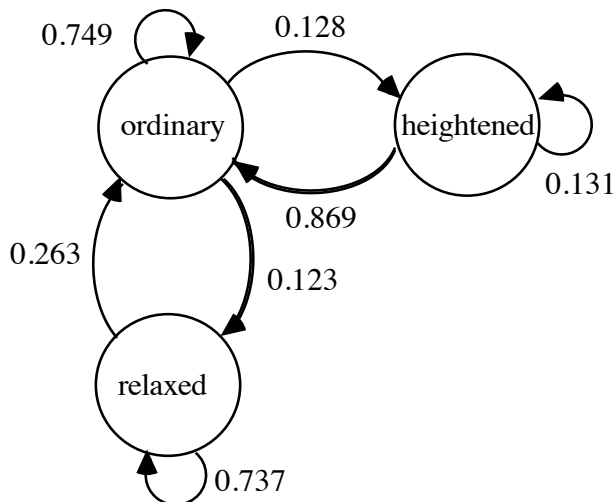

Figure 4: Transition diagram for quality control
As you discovered in the previous activity, the probabilities for the states in the company's quality-control process can be represented in a transition diagram. This transition diagram is shown in Figure 4.
- b. Extend this tree diagram, complete with probabilities, for a second transition. (Assume that the probabilities of moving from one state to another remain the same as in Figure 4.)
- d. Create the corresponding transition matrix \mathbf{T} for the information in Figure 4. **Note:** Save this matrix for use in the assignment.